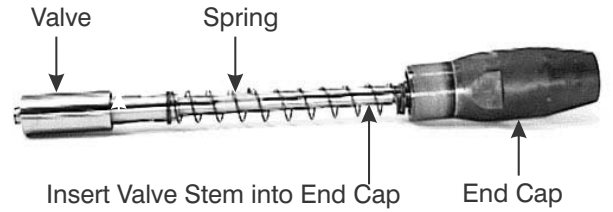

Figure 9-17. Slide Valve Stem and Spring into End Cap and Valve Guide.
3. Refer to Figure 9-17, and guide the Spring (6) and Valve Stem (5) into the threaded end of the End Cap (9), and then into the Valve Guide (7).
4. Continue to slide Valve Stem (5) into Valve Guide (7) until the Valve Stem